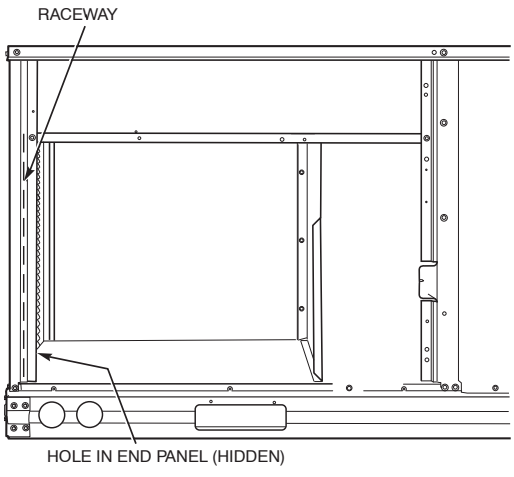

Fig. 33 - Field Control Wiring Raceway
Pass the thermostat control wires through the hole provided in the corner post; then feed the wires through the raceway built into the corner post to the control box. Pull the wires over to the terminal strip on the upper-left corner of the Controls Connection Board. See Fig. 33.
2. Feed wires through the raceway built into the corner post (see Fig. 33) to the 24-v barrier located on the left side of the control box. The raceway provides the UL-required clearance between high-voltage and low-voltage wiring.